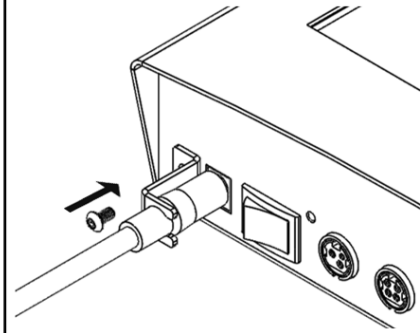

Figure 16
- Insert the male end of the power adapter cable supplied at the back of printer (refer to Figure 16).